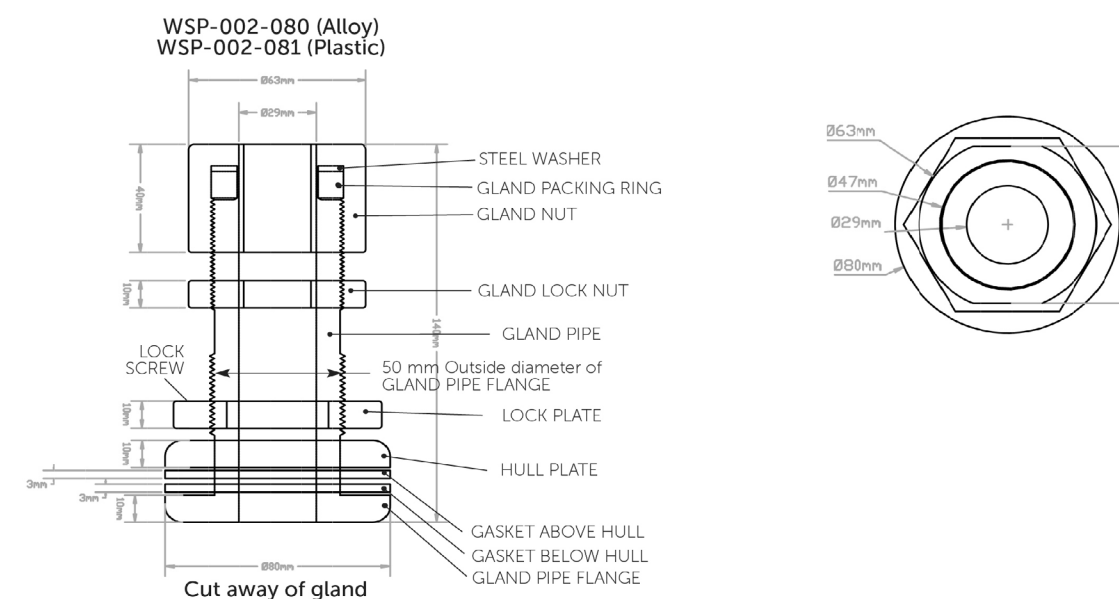

Figure 8. Alloy / Plastic Gland Assembly Outline and Dimensions
*"Figure 8. Alloy / Plastic Gland Assembly Outline and Dimensions"* shows the physical dimensions of the WASSP Ltd. supplied alloy / plastic gland assembly. The steel gland is different to below.